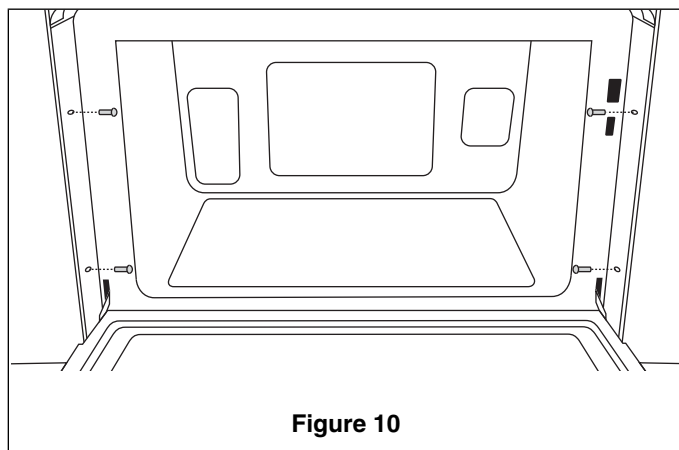
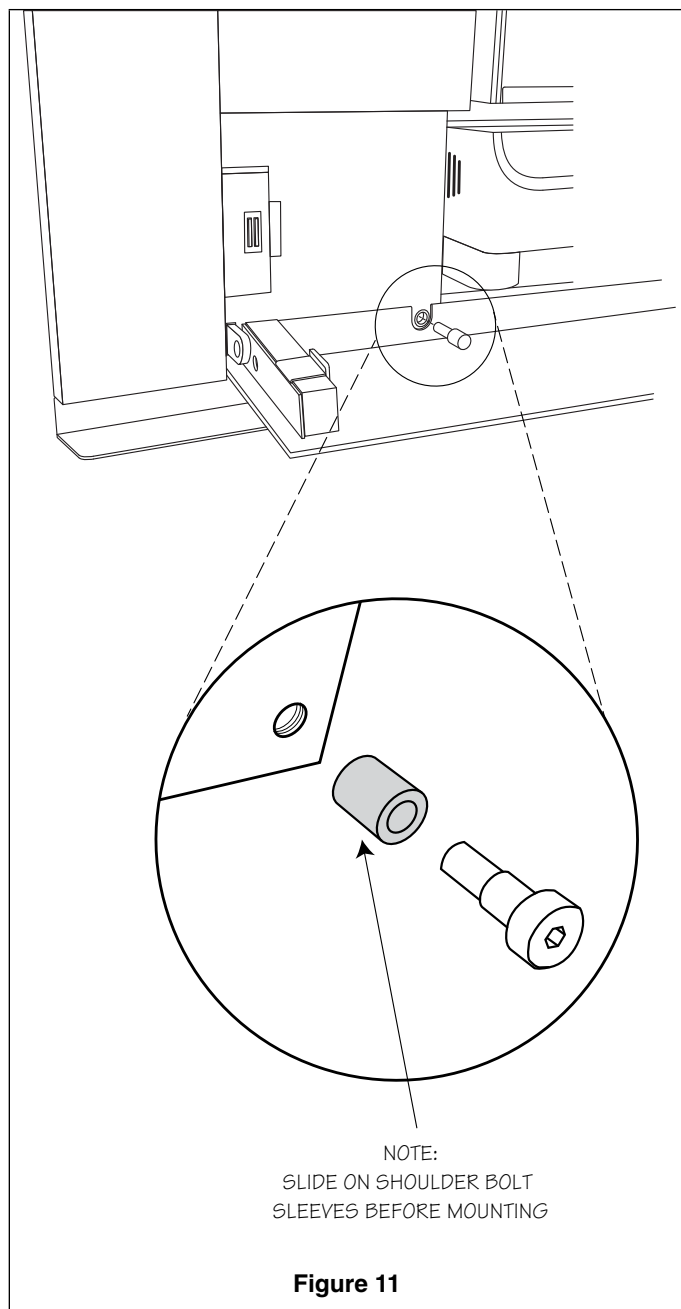

Figure 10
Figure 11
6. Open the drip tray door and insert the 2 shoulder bolts supplied. See Figure 11. Do not completely tighten.
7. Check alignment of oven then tighten the 4 mounting screws in Figure 10 and the 2 shoulder screws in Figure 11 to secure oven.